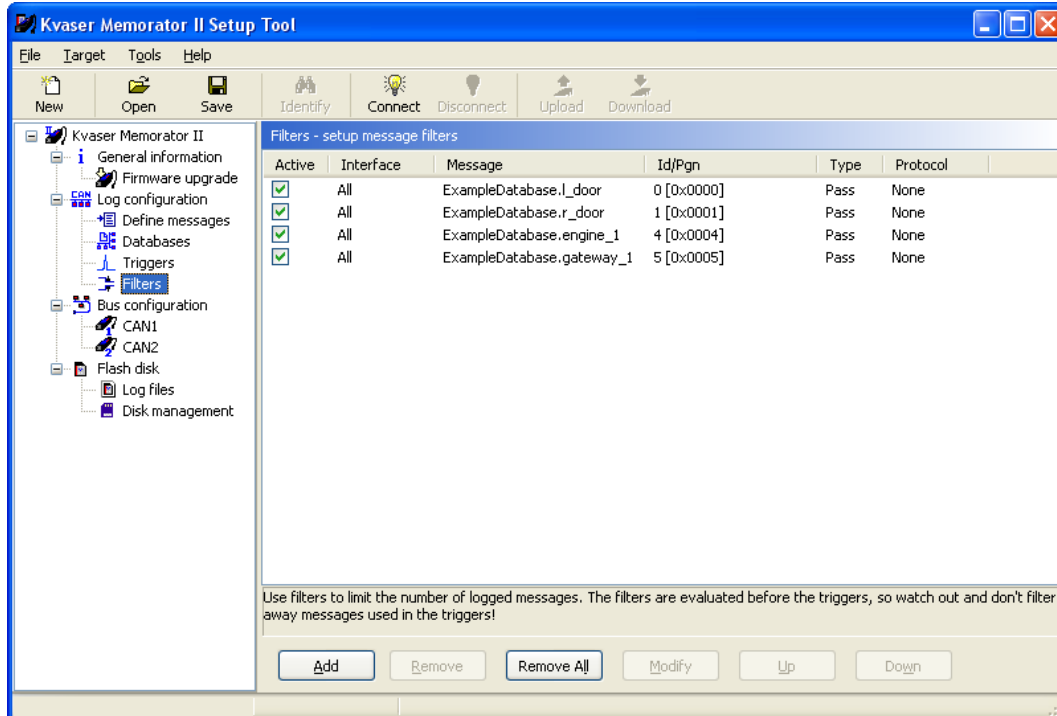

Figure 19. List of filters.
You should now be able to see the created filter in the filter list. See Figure 19.
- Create three more filters for the messages: `r_door`, `engine_1` and `gateway_1`. You should then be able to see all four filters like in the filter list at Figure 19.